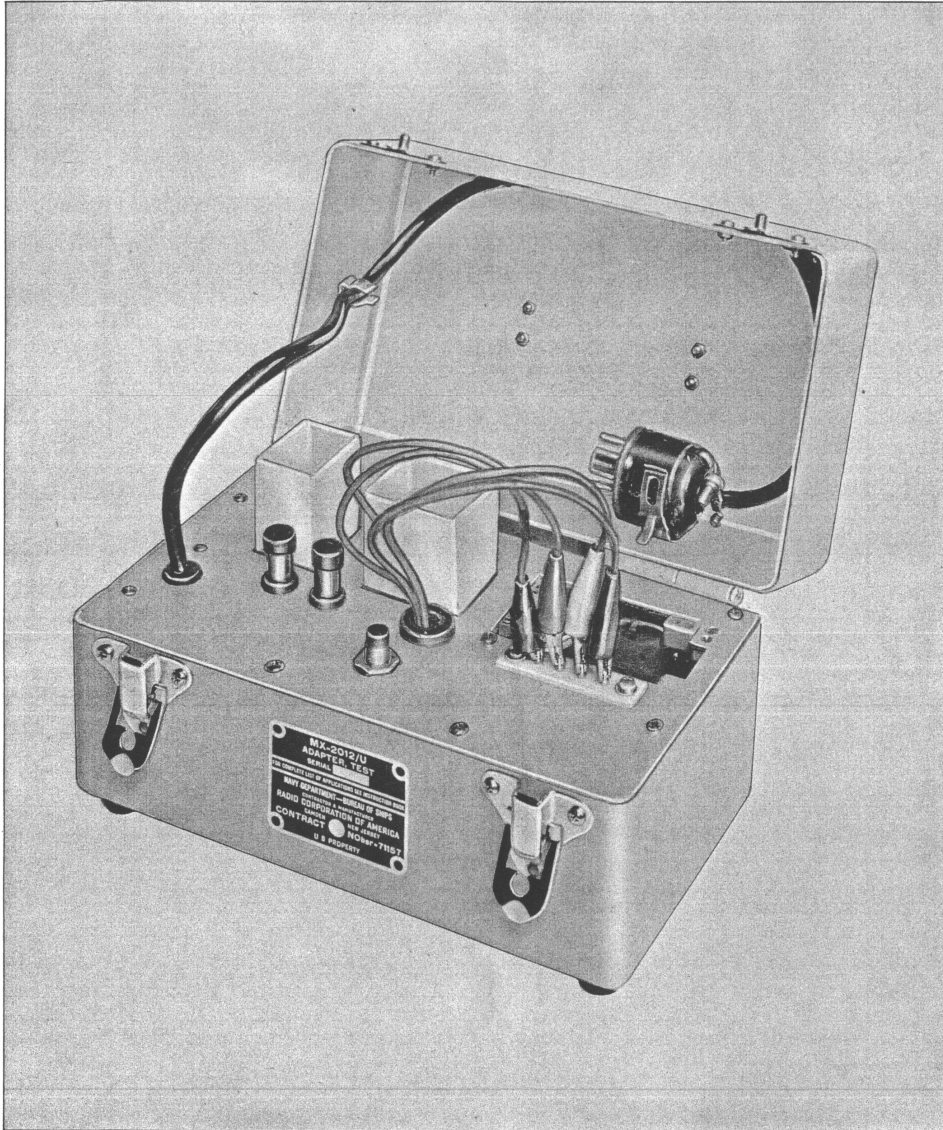

Figure 1-1. Test Adapter MX-2012/U
This instruction book covers the Test Adapter MX-2012/U, figure 1-1, used in conjunction with Tube Tester series TV-3/U, TV-3A/U, TV-3B/U and TV-3C/U. Sections on description, theory, installation, operation, maintenance, and parts lists are included.
a. GENERAL. — Equipment supplied is given in table 1-1 and shown in figure 1-1. Shipping data is given in table 1-3.
(1) Pry open the end flaps of the outer corrugated carton.
(2) Slide the inner carton out of the outer carton and pry open the end flaps.
(3) Slide the contents out of the carton, cut and remove the moisture barrier.
(4) Check contents for damage.